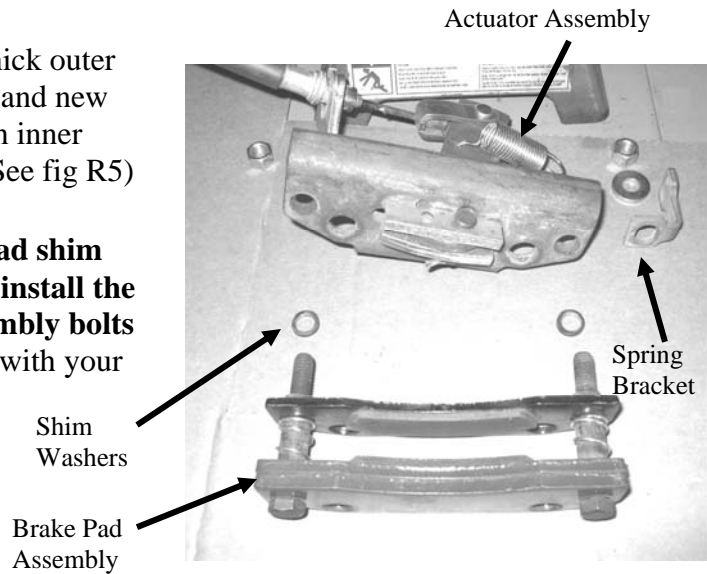

Fig R5 – New component assembly
5. Insert outer bolts through the new thick outer brake pad. Place spacers over bolts and new springs over spacers. Place new thin inner brake pad over bolts and spacers. (See fig R5)
- o **If you could not move the 0.030 inch gauge, disassemble the brake and add 1 shim washer to each assembly bolt (see fig R5).** Repeat steps 6&7
- o **If you *could* move the 0.055 inch gauge across the full width, disassemble the brake and remove one shim washer from each assembly bolt (see fig R5).** Repeat steps 6, 7 & 8.